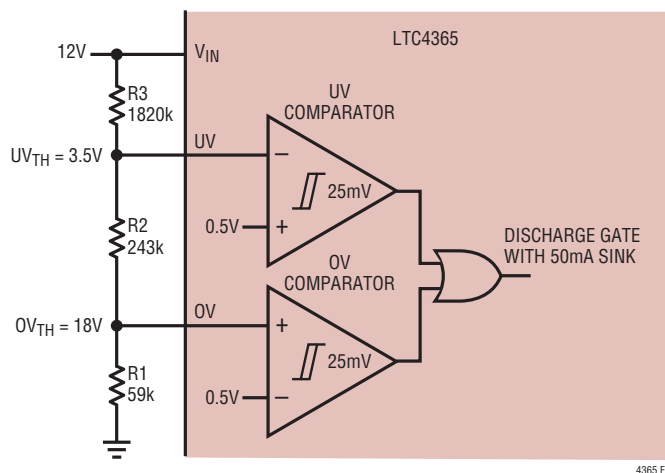

Figure 3. UV, OV Comparators Monitor 12V Supply
The LTC4365 provides two accurate comparators to monitor for overvoltage (OV) and undervoltage (UV) conditions at V_{IN} . If the input supply rises above the user adjustable OV threshold, the gate of the external MOSFET is quickly turned off, thus disconnecting the load from the input. Similarly, if the input supply falls below the user adjustable UV threshold, the gate of the external MOSFET also is quickly turned off. Figure 3 shows a UV/OV application for an input supply of 12V.
The external resistive divider allows the user to select an input supply range that is compatible with the load at V_{OUT} . Furthermore, the UV and OV inputs have very low leakage currents (typically $< 1nA$ at $100^\circ C$), allowing for large values in the external resistive divider. In the application of Figure 3, the load is connected to the supply only if V_{IN} lies between 3.5V and 18V. In the event that V_{IN} goes above 18V or below 3.5V, the gate of the external N-channel MOSFET is immediately discharged with a 50mA current sink, thus isolating the load from the supply.
The following 3-step procedure helps select the resistor values for the resistive divider of Figure 3. This procedure minimizes UV and OV offset errors caused by leakage currents at the respective pins.
The example of Figure 3 uses standard 1% resistor values. The following parameters were selected: